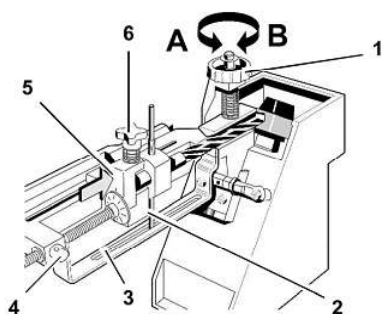

Fig. 8
1. Turn knurled screw **1** (Fig. 8) in direction B to open the positioning prism.
***In case of small or too short drills clamping with screw 6 (Fig. 8) is not necessary. In any case ensure exact axial stop and guidance in the clamping prism 5 (Fig. 8)!***